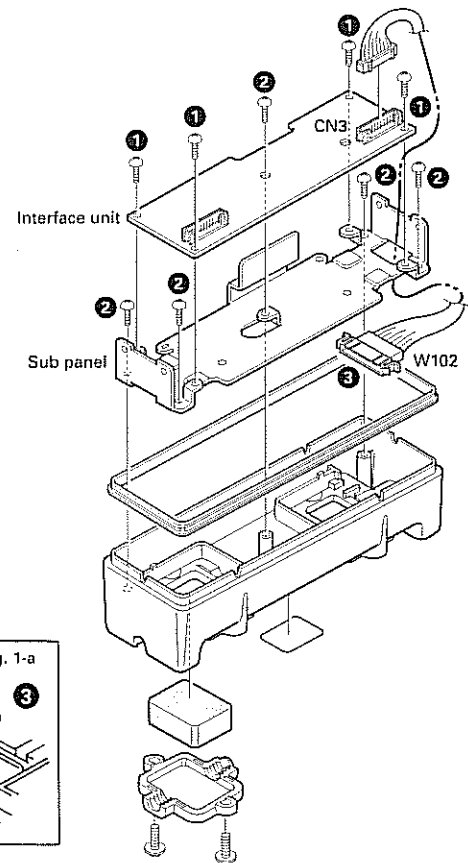

Fig. 1
#### 1. Body Panel Disassembly Procedure (Fig. 1)
Figure 1 shows the KRK-7DB (body 2) as an example.
1. Remove the four screws holding the interface unit (1).
3. Remove the five screws (2) holding the subpanel.
4. See Figure 1-a for how to install the lead with a connector (3).